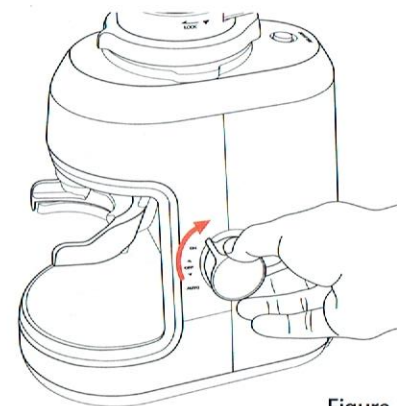

Figure 7
11. To continuously grind coffee, turn the dial to the On position, see figure 7.